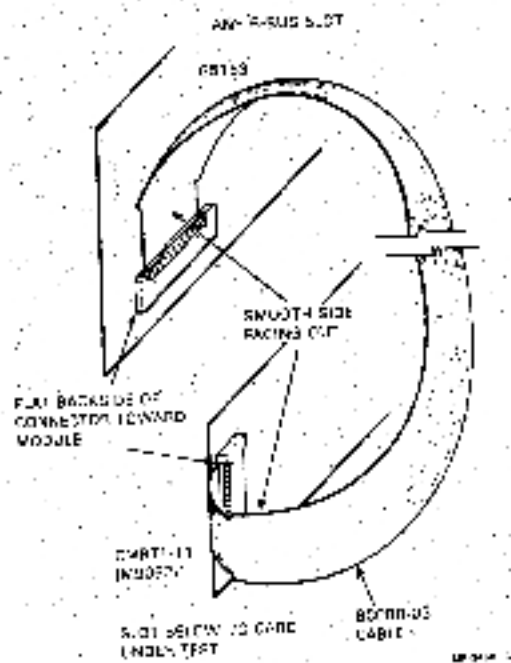

Figure 3-12 BC08R Test Interconnect
- BC05B-03 40 conductor flat ribbon cable 0.9 m (3 feet) used to interconnect the G5153 and CMRT1-11 (see Figure 3-12).